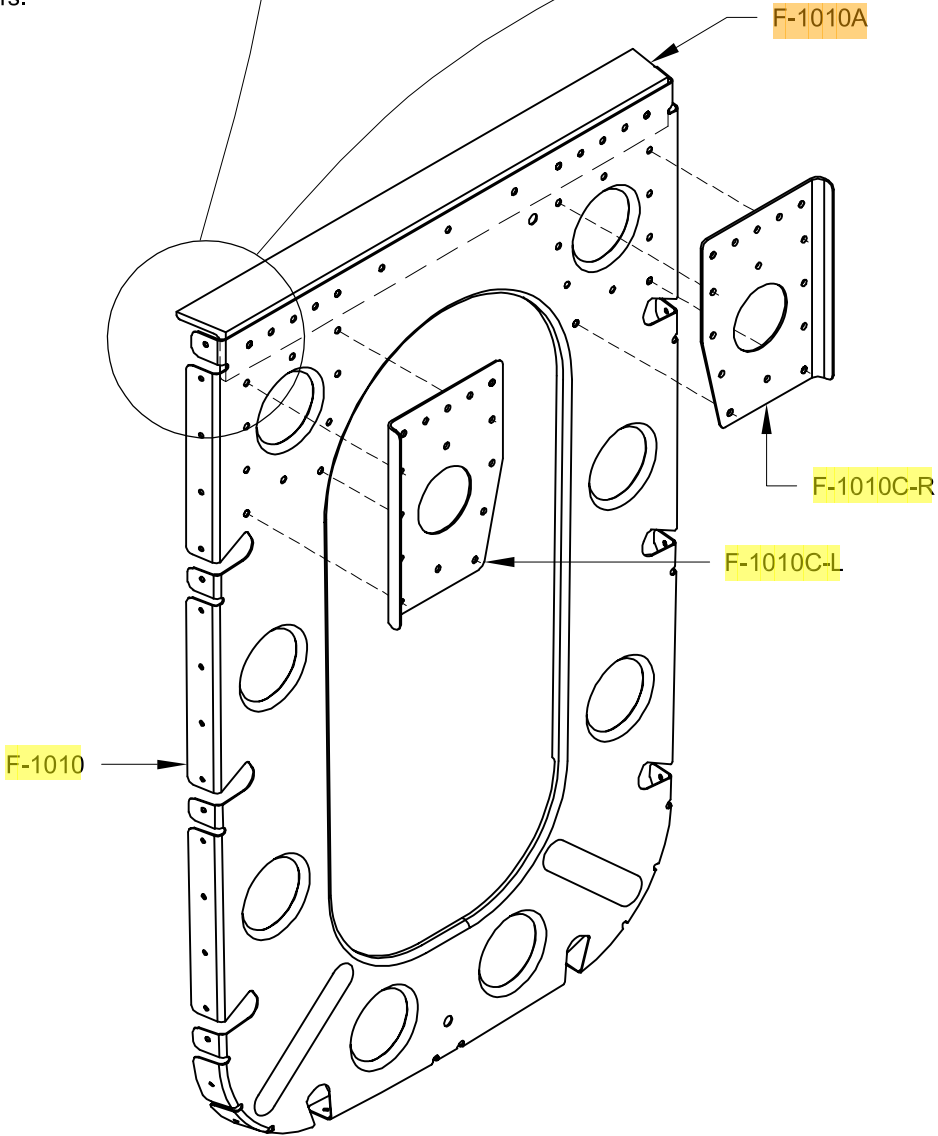

FIGURE 3: DRILLING THE HORIZONTAL STABILIZER ATTACHMENT ANGLE
Step 3: Deburr and flute (if necessary) the **F-1008-L** & -R Frames, then cleco them and the **F-1085** Rudder Cable Bracket together as shown in Figure 3. Note that the left frame is positioned in front of the right.